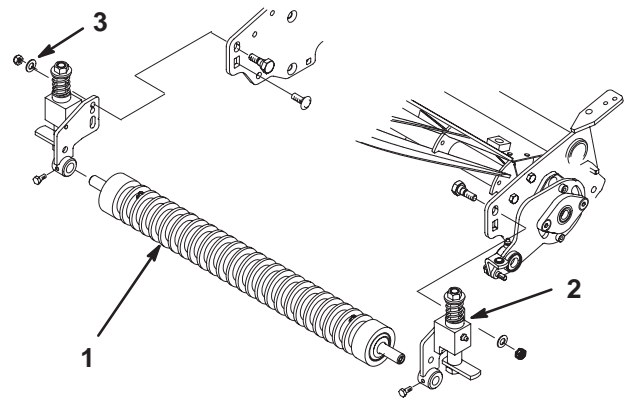

Figure 3
12. Loosely mount the front roller and new right-hand and left-hand roller bracket assemblies to the cutting unit side plates with the mounting hardware previously removed or use the new hardware and 2 flat washers (5/16 in.) (included in this kit). Mount the roller in the Number 2 (standard) position as shown in Figure 3.